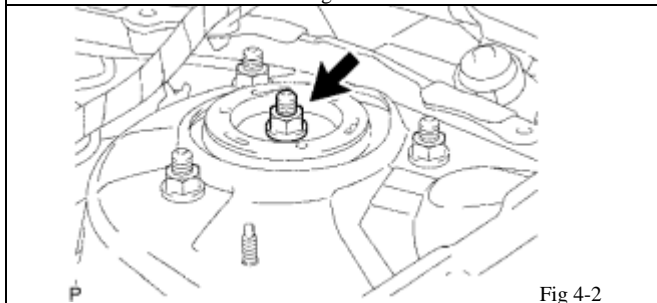

Fig 4-2
- (e) Loosen the lock nut. (Fig 4-2)